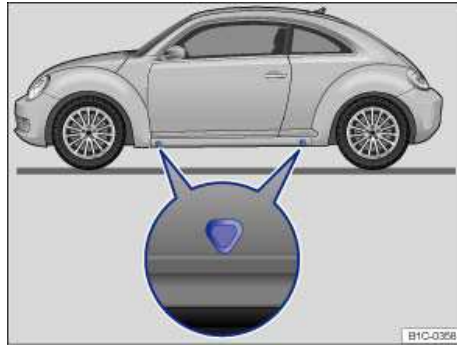

Fig. 166 Lift points for the jack.
The jack must be positioned at one of the 4 lift points marked on the vehicle body (2 on each side as shown in ⇒ fig. 166). You must use the lift point closest to the wheel being changed ⇒ ⚠.
6. Find the jack lift point ⇒ fig. 166 on the vehicle frame that is closest to the wheel to be changed.